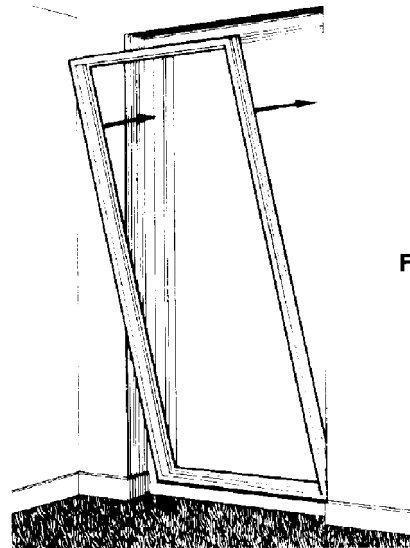

FIG. 6
D. Offer the base of the aluminium outer frame to the sub-frame, swing it upright into position and press it firmly against the back of the sealant coated rebate. FIG. 6.